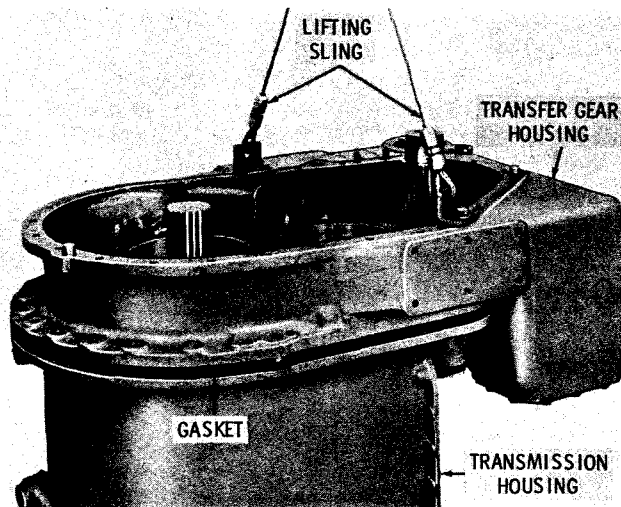

Fig. 7-116. Installing transfer gear housing
(6) Install the gasket onto the transmission housing. Suspend the housing assembly on a sling, balancing it in a horizontal position. Install the housing assembly and retain it with twenty-seven 5/8-11 x 1 3/4-inch bolts and lockwashers (fig. 7-116). Tighten the bolts to 117 to 140 pound feet torque.